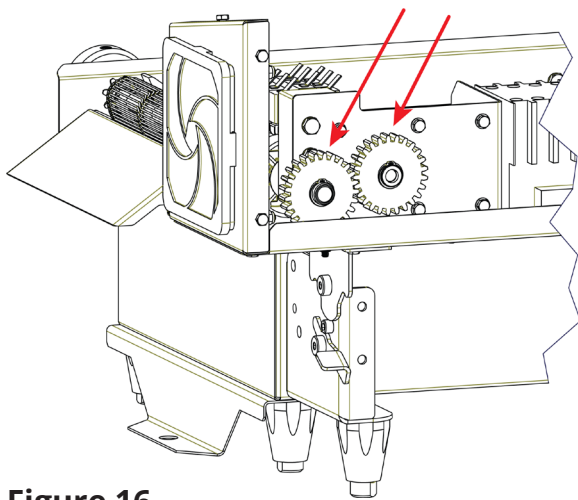

Figure 16
3. Lightly coat the gear teeth with food grade grease. See Figure 16.